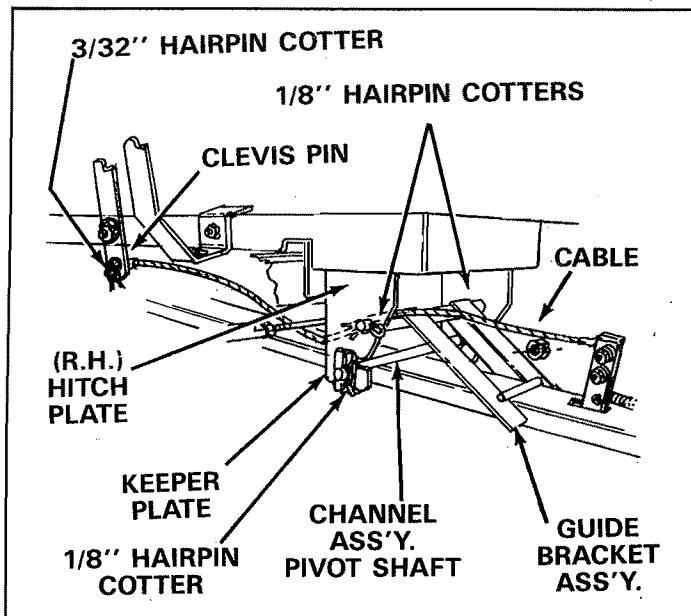

FIGURE 24
3. Refer to figure 24 below and remove 1/8" (large) hairpin cotters from ends of guide bracket assembly and remove guide bracket assembly.
4. Refer to figure 24 above and remove 3/32" (small) hairpin cotter from 3/8" clevis pin which holds end of blade lock release cable to blade lock release lever. Pull cable free from tractor and reassemble clevis pin and cotter pin for storage. See figure 24.
6. Refer to figure 24 and remove 1/8" (large) hairpin cotters from ends of channel assembly pivot shaft and remove keeper plates. Lift the channel assembly pivot shaft out of the hitch plates and lower channel to the ground.